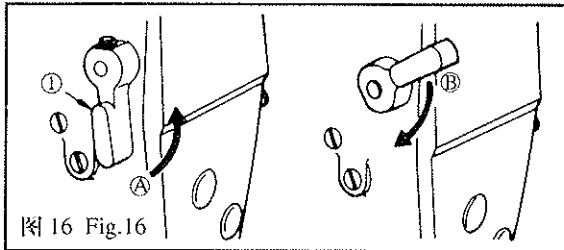

图 16 Fig.16
- 1) Loosen setscrew ② , and take out tension asm ⑤ .
- 2) Loosen setscrew ④ , and remove tension post ③ .
- 3) As you turn tension post ③ clockwise (in direction A), the pressure will be increased.
10. 压脚板手(图 16)
10. HAND LIFTER (Fig.16)